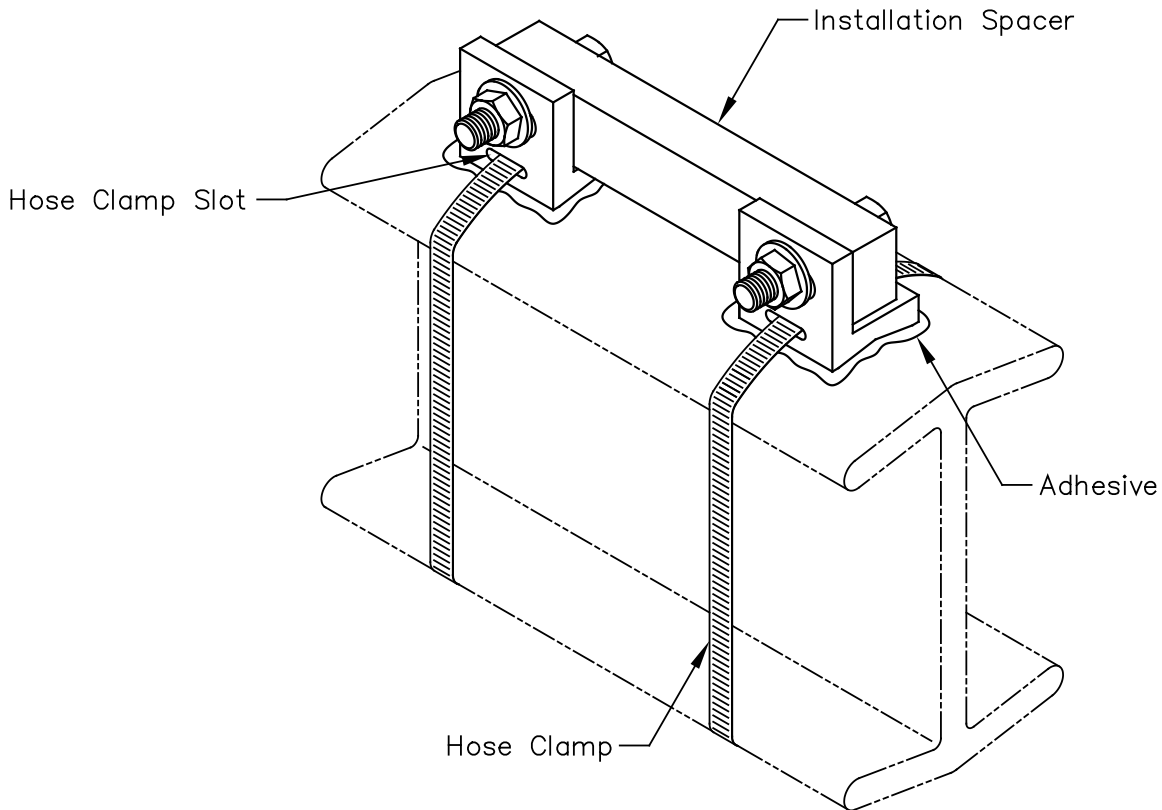

Figure 2.3-C – Bonded Transducer Mounting Bracket / Installation Spacer
8. Thoroughly mix the adhesive compounds and apply enough adhesive to cover both mating surfaces. Set the transducer mounting brackets and installation spacer in the marked location and clamp in place using a “C” clamp and tighten. Install the two supplied hose clamps and tighten firmly, (see Figure 2.3-C).